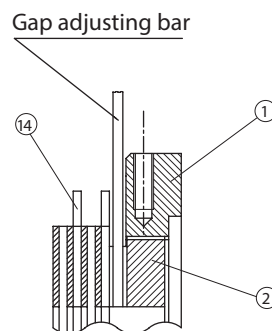
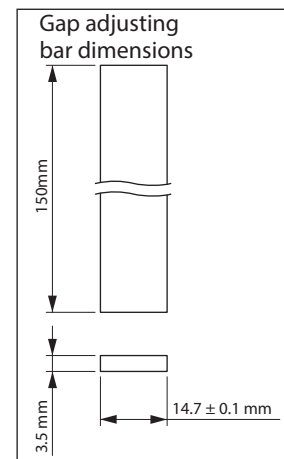

Figure 8-34
Figure 8-35
- (3) Insert the gap adjusting bar (customer to prepare an angle plate. See Figure 8-35) from between the outer disc [14] and the center ring [1] into a hole for a gap adjusting screw [2]. Rotating to the left as seen from the field [4] side, will narrow the gap. (See Figure 8-34)
- (4) Six attachment bolts [3] and lock bolts [11] alternately pass through the space between the outer disc [14] and the center ring [1]. Rotating the gap adjusting bar will contact these bolts. There are 8 equally distributed holes for gap adjusting screws [2]. Adjust the gap G to the required value by repeating (3) each time the gap adjusting bar contacts a bolt.
- (5) Select the point where hole and screw hole are closest to the required gap and attach the stopper [16] there.
- (6) After returning the manual brake release to its original state, turn power on and off to check brake action.
- (7) Attach the brake cover [22], V-ring [23], fan [7], fan set screw [10], cover [8] and outdoor cover [25]. At this time coat the fan set screw [10] with Three Bond TB2365.